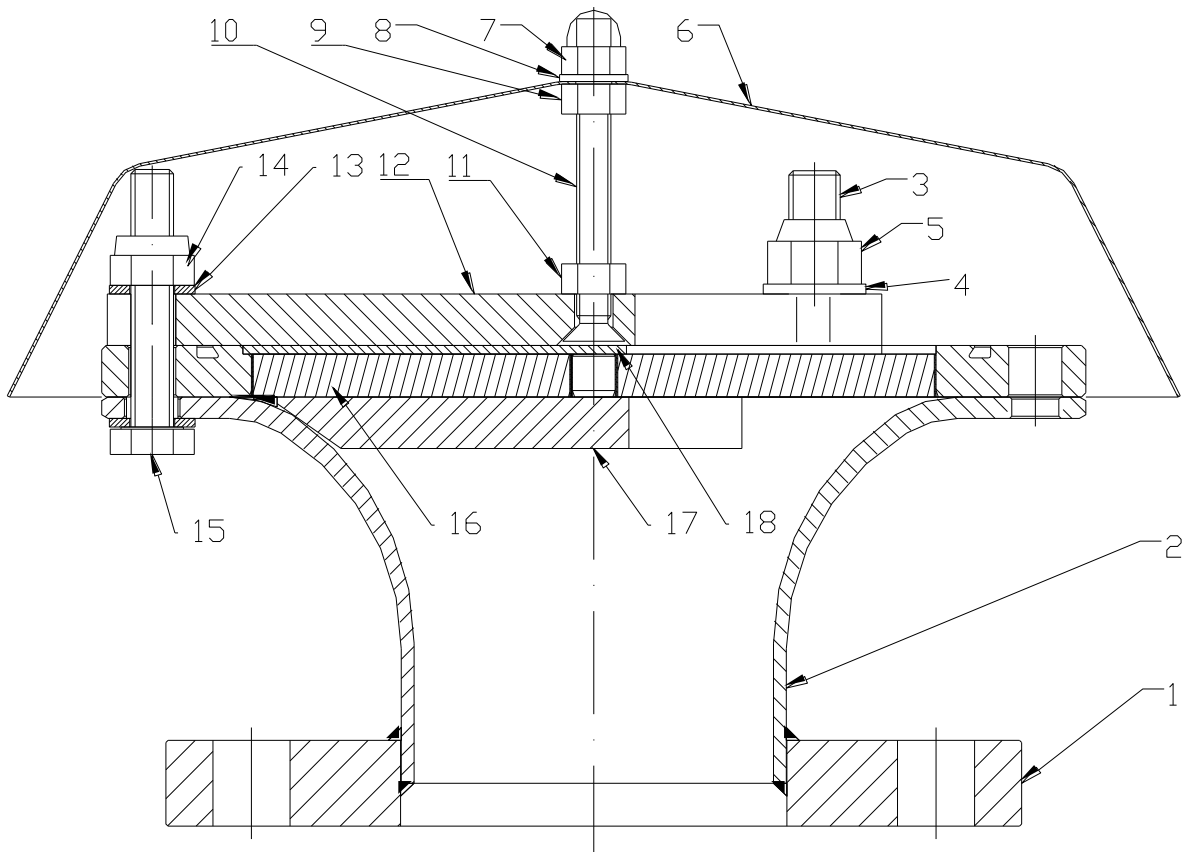

Fig. 1
5. Technical specifications (See fig.1)
(See figure 1)
- Spare part no. (Please refer to **fig. 1** for items)